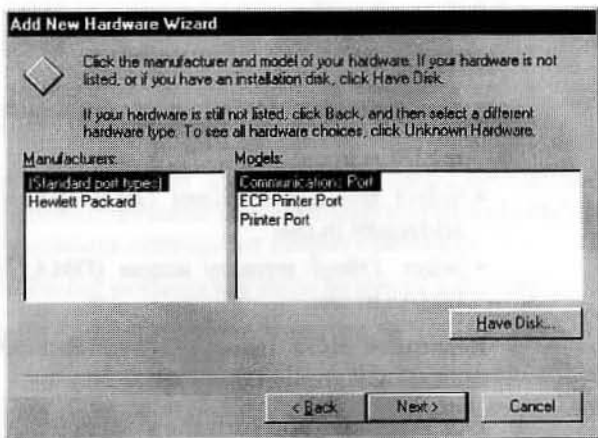

Figure 2-2
- From the *Add New Hardware Wizard* dialog box, select *Standard port types* under *manufacturer* window in the left. Then select *Communications port* (for serial port); *ECP Printer Port* or *Printer port* (for parallel port) that matches the port you have installed under *model* window in the right accordingly. Click *Next*. (See **Figure 2-2**)